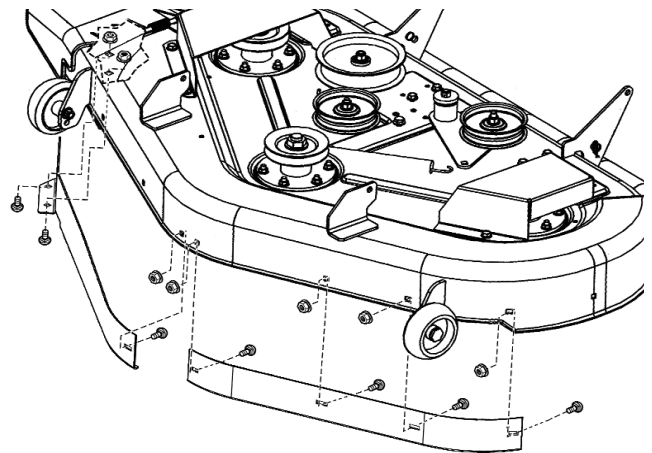

FIGURE 3
b. Secure the left baffle to the inside front of the deck with four 5/16 x 5/8" carriage bolts and flange nuts. See Figure 3.
c. Secure the right baffle to the inside front and bottom of the deck with three 5/16 x 5/8" carriage bolts and flange nuts. See Figure 3. Be sure to tighten all hardware securely.